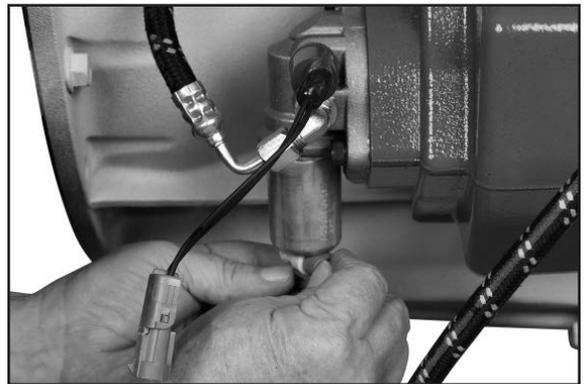
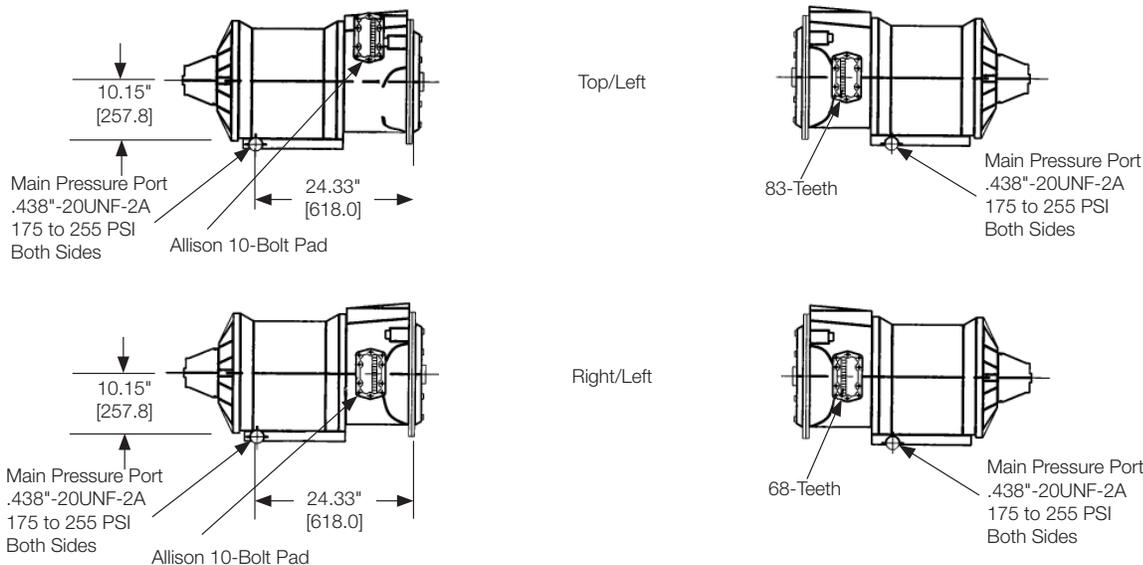

Figure 28
Figure 29
12. Complete the assembly by installing the electrical connection to the valve assembly (**Fig. 28**) and the pressure switch (379502) (**Fig. 29**). Not available for the 288 Series Installations.